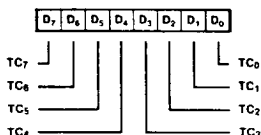

Figure 15: CTC Time Constant Word
**Time Constant Word (Figure 15).** Before a channel can start counting, it must receive a time constant word. The time constant value may be anywhere between 1 and 256, with "0" being accepted as a count of 256.